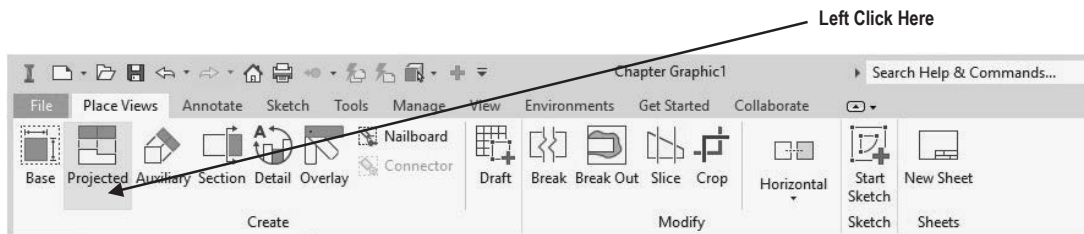

Figure 17
22. Move the cursor to the upper left portion of the screen and left click on **Projected** as shown in Figure 17.